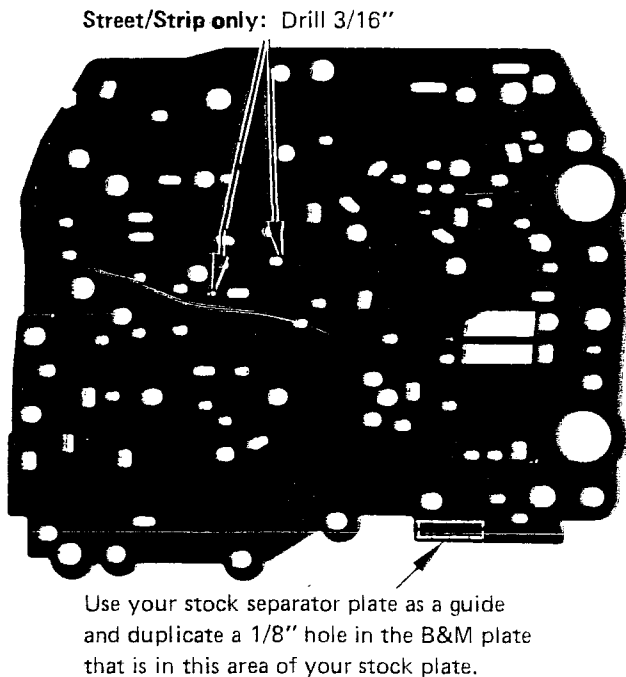

FIGURE 8 (ALL EXCEPT PINTO)
STEP 12. All except Pinto: Refer to Fig. 8 and note that your stock separator plate has a hole in the area shown. This hole will be round or oval. The furnished B&M plate does not have a hole in this area. Use your stock separator plate as a guide and drill a hole in the B&M plate in the same location using the 1/8" drill supplied with the kit. Where there was an oval hole in the stock plate, a round one will be sufficient in the B&M plate. After you drill the hole, deburr the plate with a file or sandpaper.
kit and drill out the two holes in the B&M plate as shown in Figure 8. Deburr the holes with a file or sandpaper after drilling.